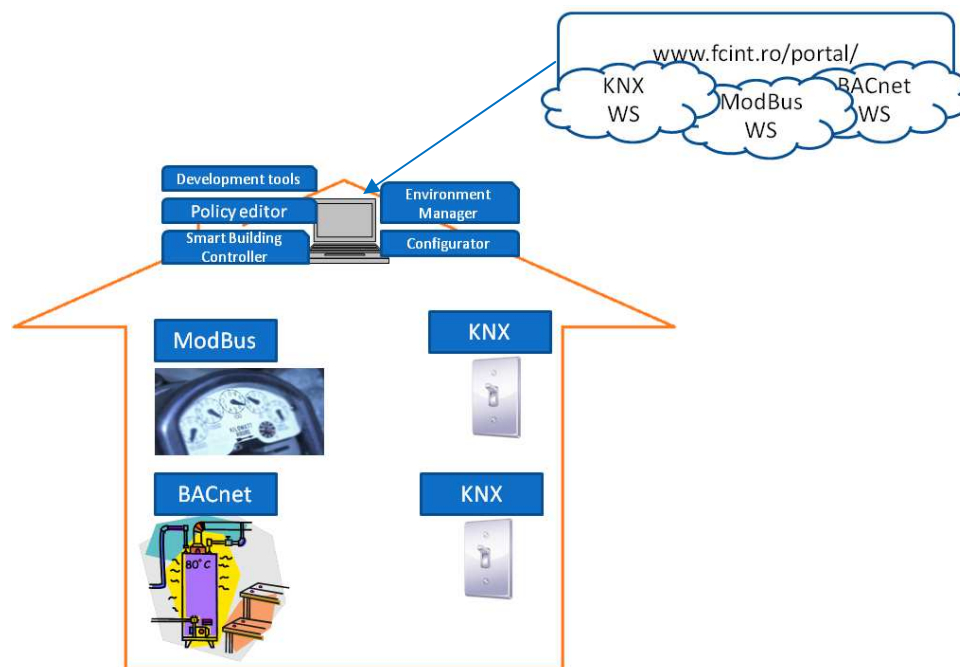

Figure 2. Download and install the FCINT client software
The main use case of the FCINT project can be summarized as follows (figures 2..7):
- A user downloads the Smart Building Controller from the FCINT portal and installs it inside his/her smart home or building (Figure 2);